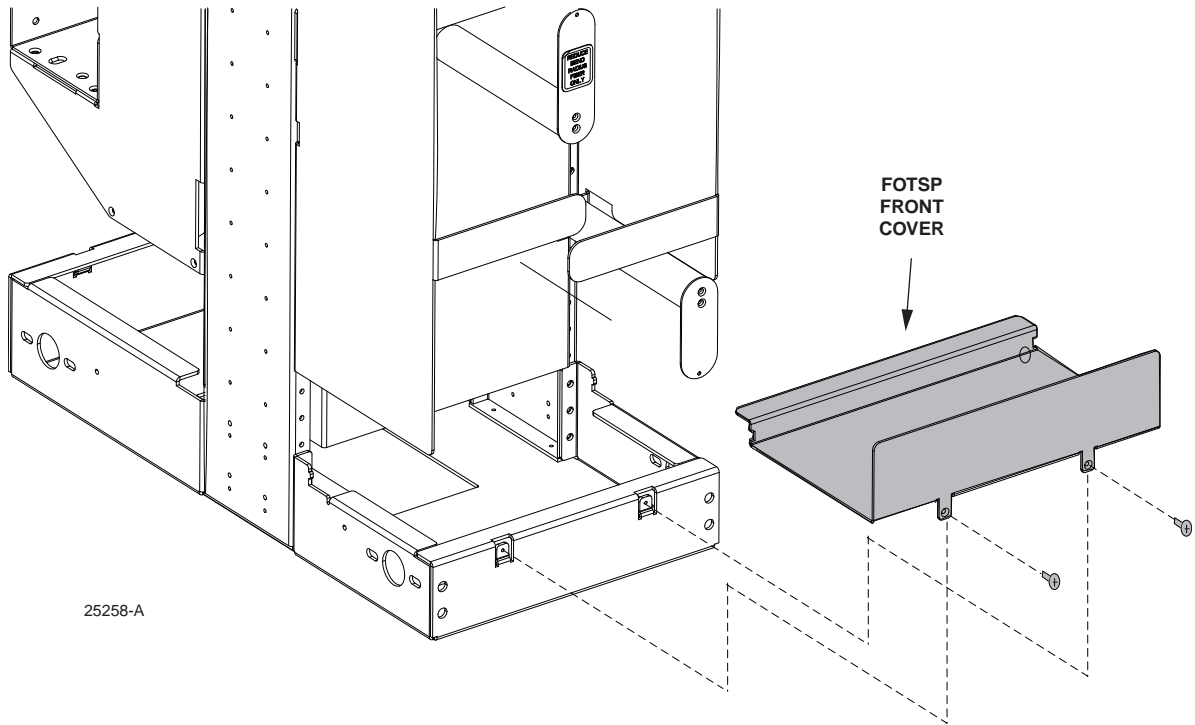
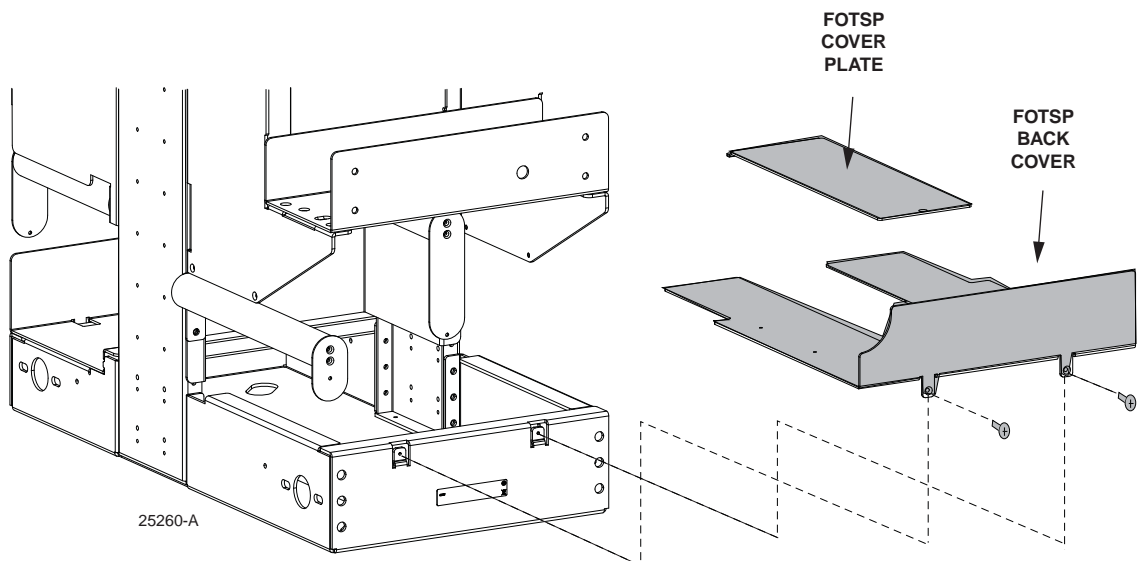

Figure 27. Removing FOTSP Front Cover
Figure 28. Removing FOTSP Back Cover and Cover Plate
4. Remove the FOTSP front cover, referring to Figure 27.
5. Remove the FOTSP back cover and cover plate (Figure 28).
11. Re-install FOTSP front and rear guard boxes (reverse of steps 3 and 4, and reverse of what is shown in Figure 27 on Page 31 and Figure 28 on Page 31).